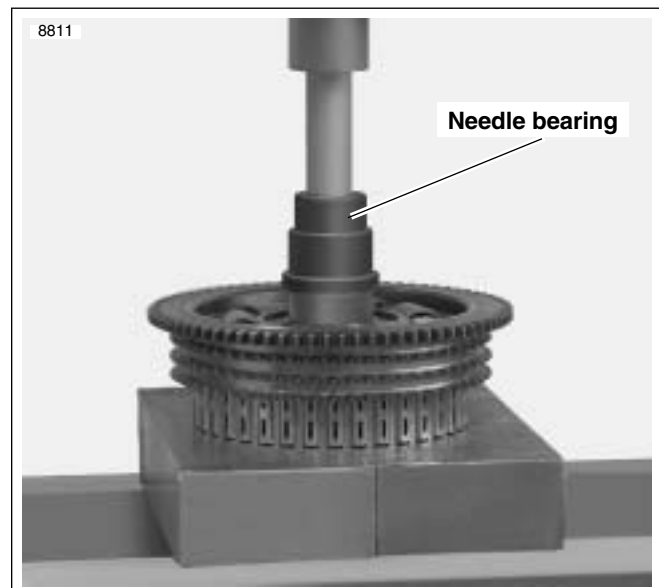

Figure 6-32. Installing Clutch Shell Needle Bearing Clutch Shell Bearing Remover/Installer (Part No. B-45926)
5. See Figure 6-32. Place clutch shell on support blocks with sprocket side facing up.